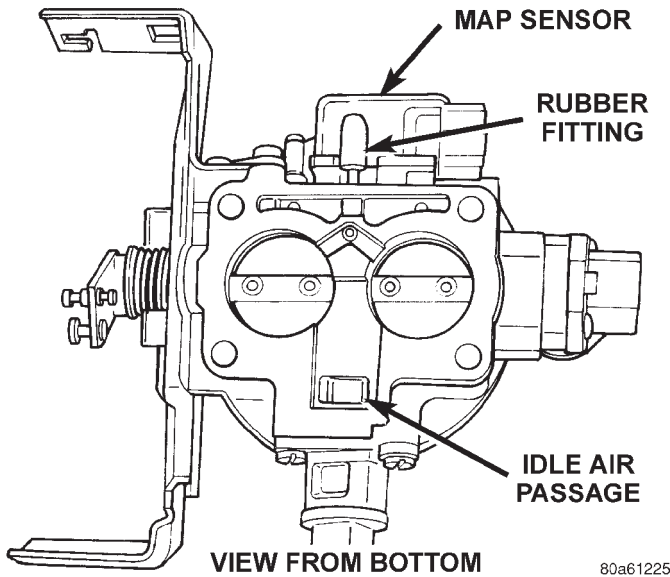

Fig. 48 Rubber L-Shaped Fitting—MAP Sensor-to-Throttle Body
(1) Inspect the rubber L-shaped fitting from the MAP sensor to the throttle body (Fig. 48). Repair as necessary.